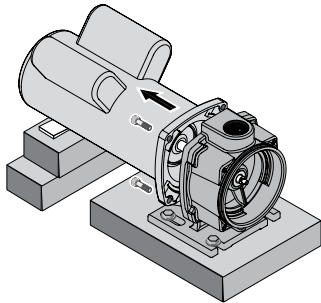

Figure 5
10. Support the motor so that the shaft is free of the weight of the motor when you loosen the cap screws holding the motor to the bracket. Remove four cap screws (Ref. No. 2), and slide the motor and shaft out of the bracket (see Figure 5).